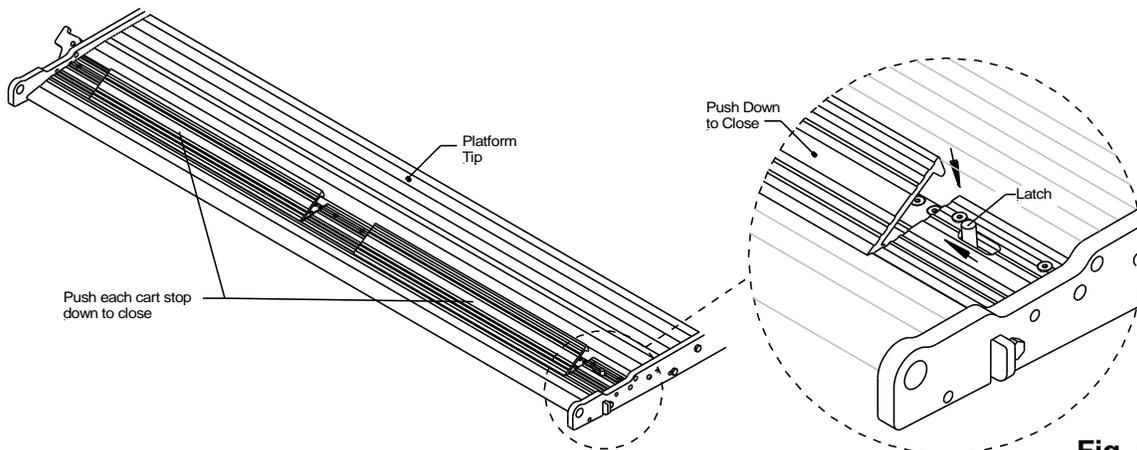

Fig. 16
2. To close the cart stops, push the cart stop latch inward towards the street side, **Fig. 16**. After the latch is in place close each cart stop by pushing each stop